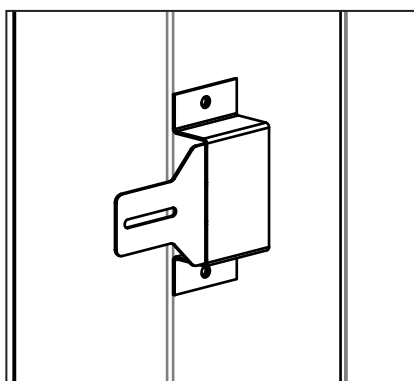
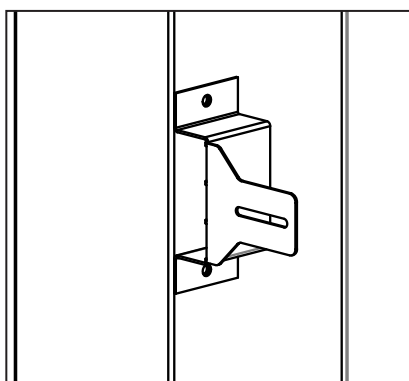

Figure 24: Nailing Flange Flat
Figure 25: Nailing Flange Assembled
There are four (4) nailing flanges to secure the unit to the framing, they are assembled flat from the manufacturer (see Figure 24). Flip the nailing flanges up 180 degrees and secure in place using the T-20 screws above pre-installed in the cabinet. Bend the flanges 90 degrees making them flush with the cabinet face (see Figure 25).